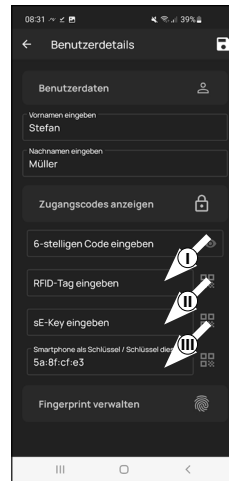

Fig. 4
- 6 A radio key *ENTRY sE-Key 7713* (optionally available) can be stored at this point (II) (Fig. 4). Instructions on how this is setup can be found in the radio key instructions.
**!** **Note:** The lock opening by smartphone is automatically stored in the administrator's user profile (III) (Fig. 4). A different smartphone as the electronic key can be stored in this field for additional users. An instructions on this subject can be found in the master operating instructions on our website (see link on the title page).